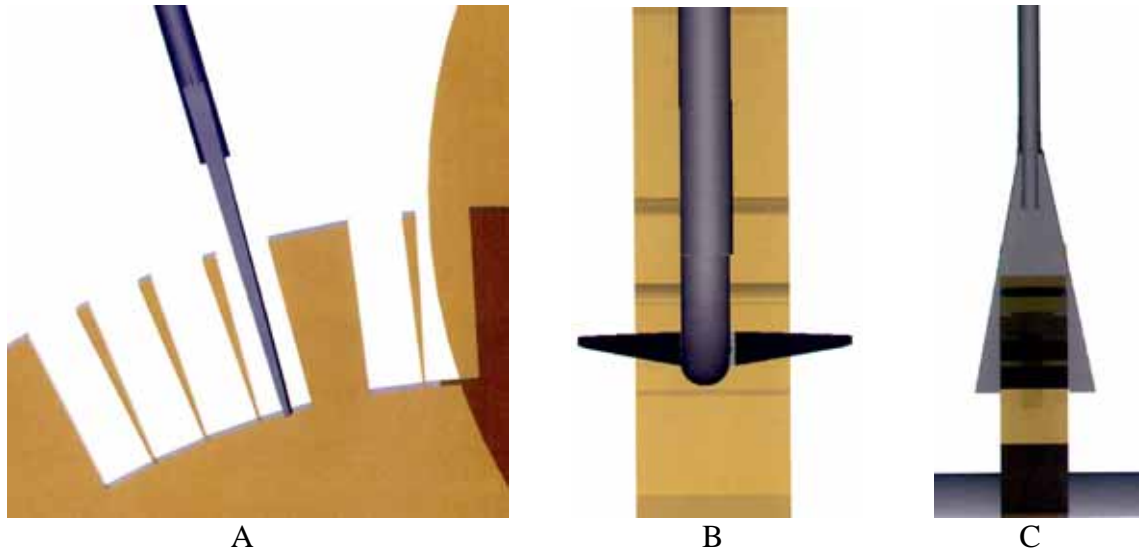

Figure 13: Correct attitude of count lever: **A**- radial and in the middle of a stop notch; **B** & **C**- square in all directions.
Reshape the end of the count lever (C) until the action brings it in the middle of the stop notch in the count wheel (K). You may have to lengthen or shorten the arm of the lever by using a pair of round-nosed pliers at the bend. To make the arm longer, use the fat part of the pliers and squeeze. To make it shorter use the narrow part of the pliers and twist. This will enable you to hit a different notch at a more optimal angle. The count lever (C) must also be true side to side. It should hit the stop notch in the middle of the paddle, be square in all directions, and be on a radius of the count wheel (K). (See figures 13 and 14.)